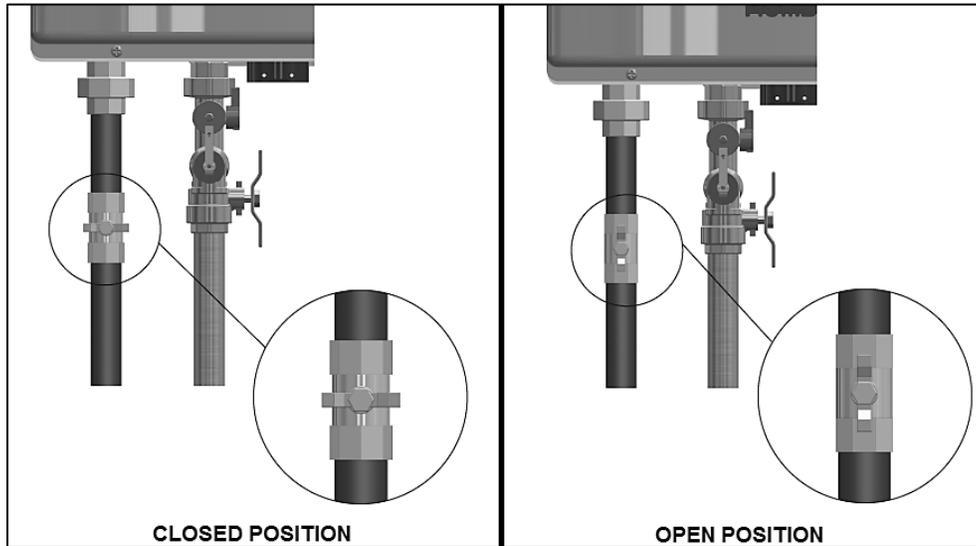

Figure 13 – Gas Line With Shut-Off Valve Detail
4. A manual gas shut-off valve should be installed in the gas supply line close to the water heater. See Figure 13 for detail.